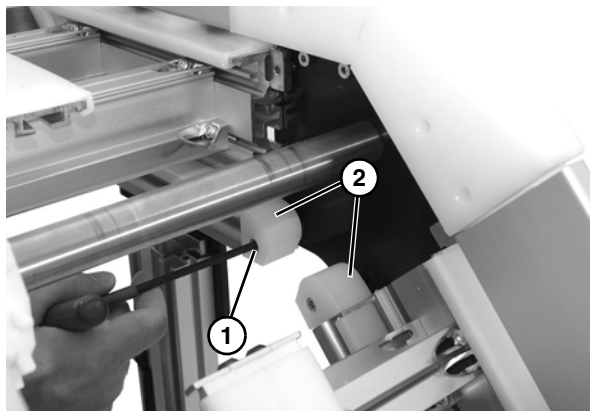

Figure 59
3. Remove socket cap screw (**Figure 59, item 1**) for each belt guide (**Figure 59, item 2**) on side of upper knuckle assembly. Repeat on opposite side.